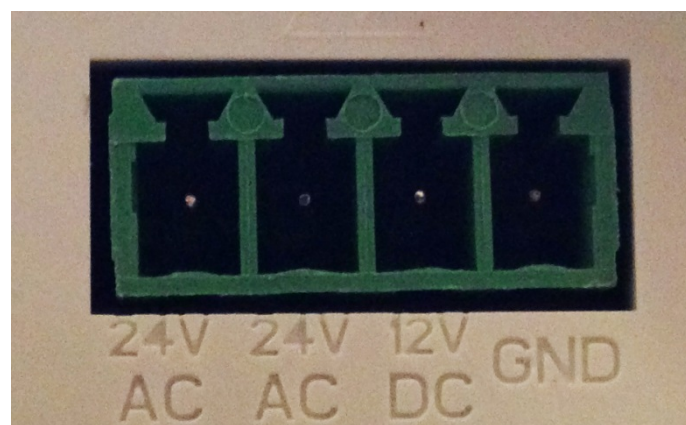

Figure 17: ZNT6-Hxxx Pin-Out (24V AC, 24V AC, 12V DC, GND)
- d. AC/DC Power for ZNT6-Hxxx: Connect wires to power block according the pin-out shown in Figure 17: